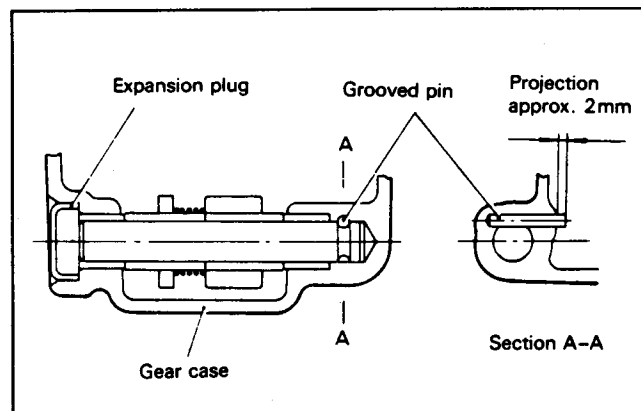

Figure 85
A. Remove the expansion plug (Fig 85). Be careful to not scratch the gear case.